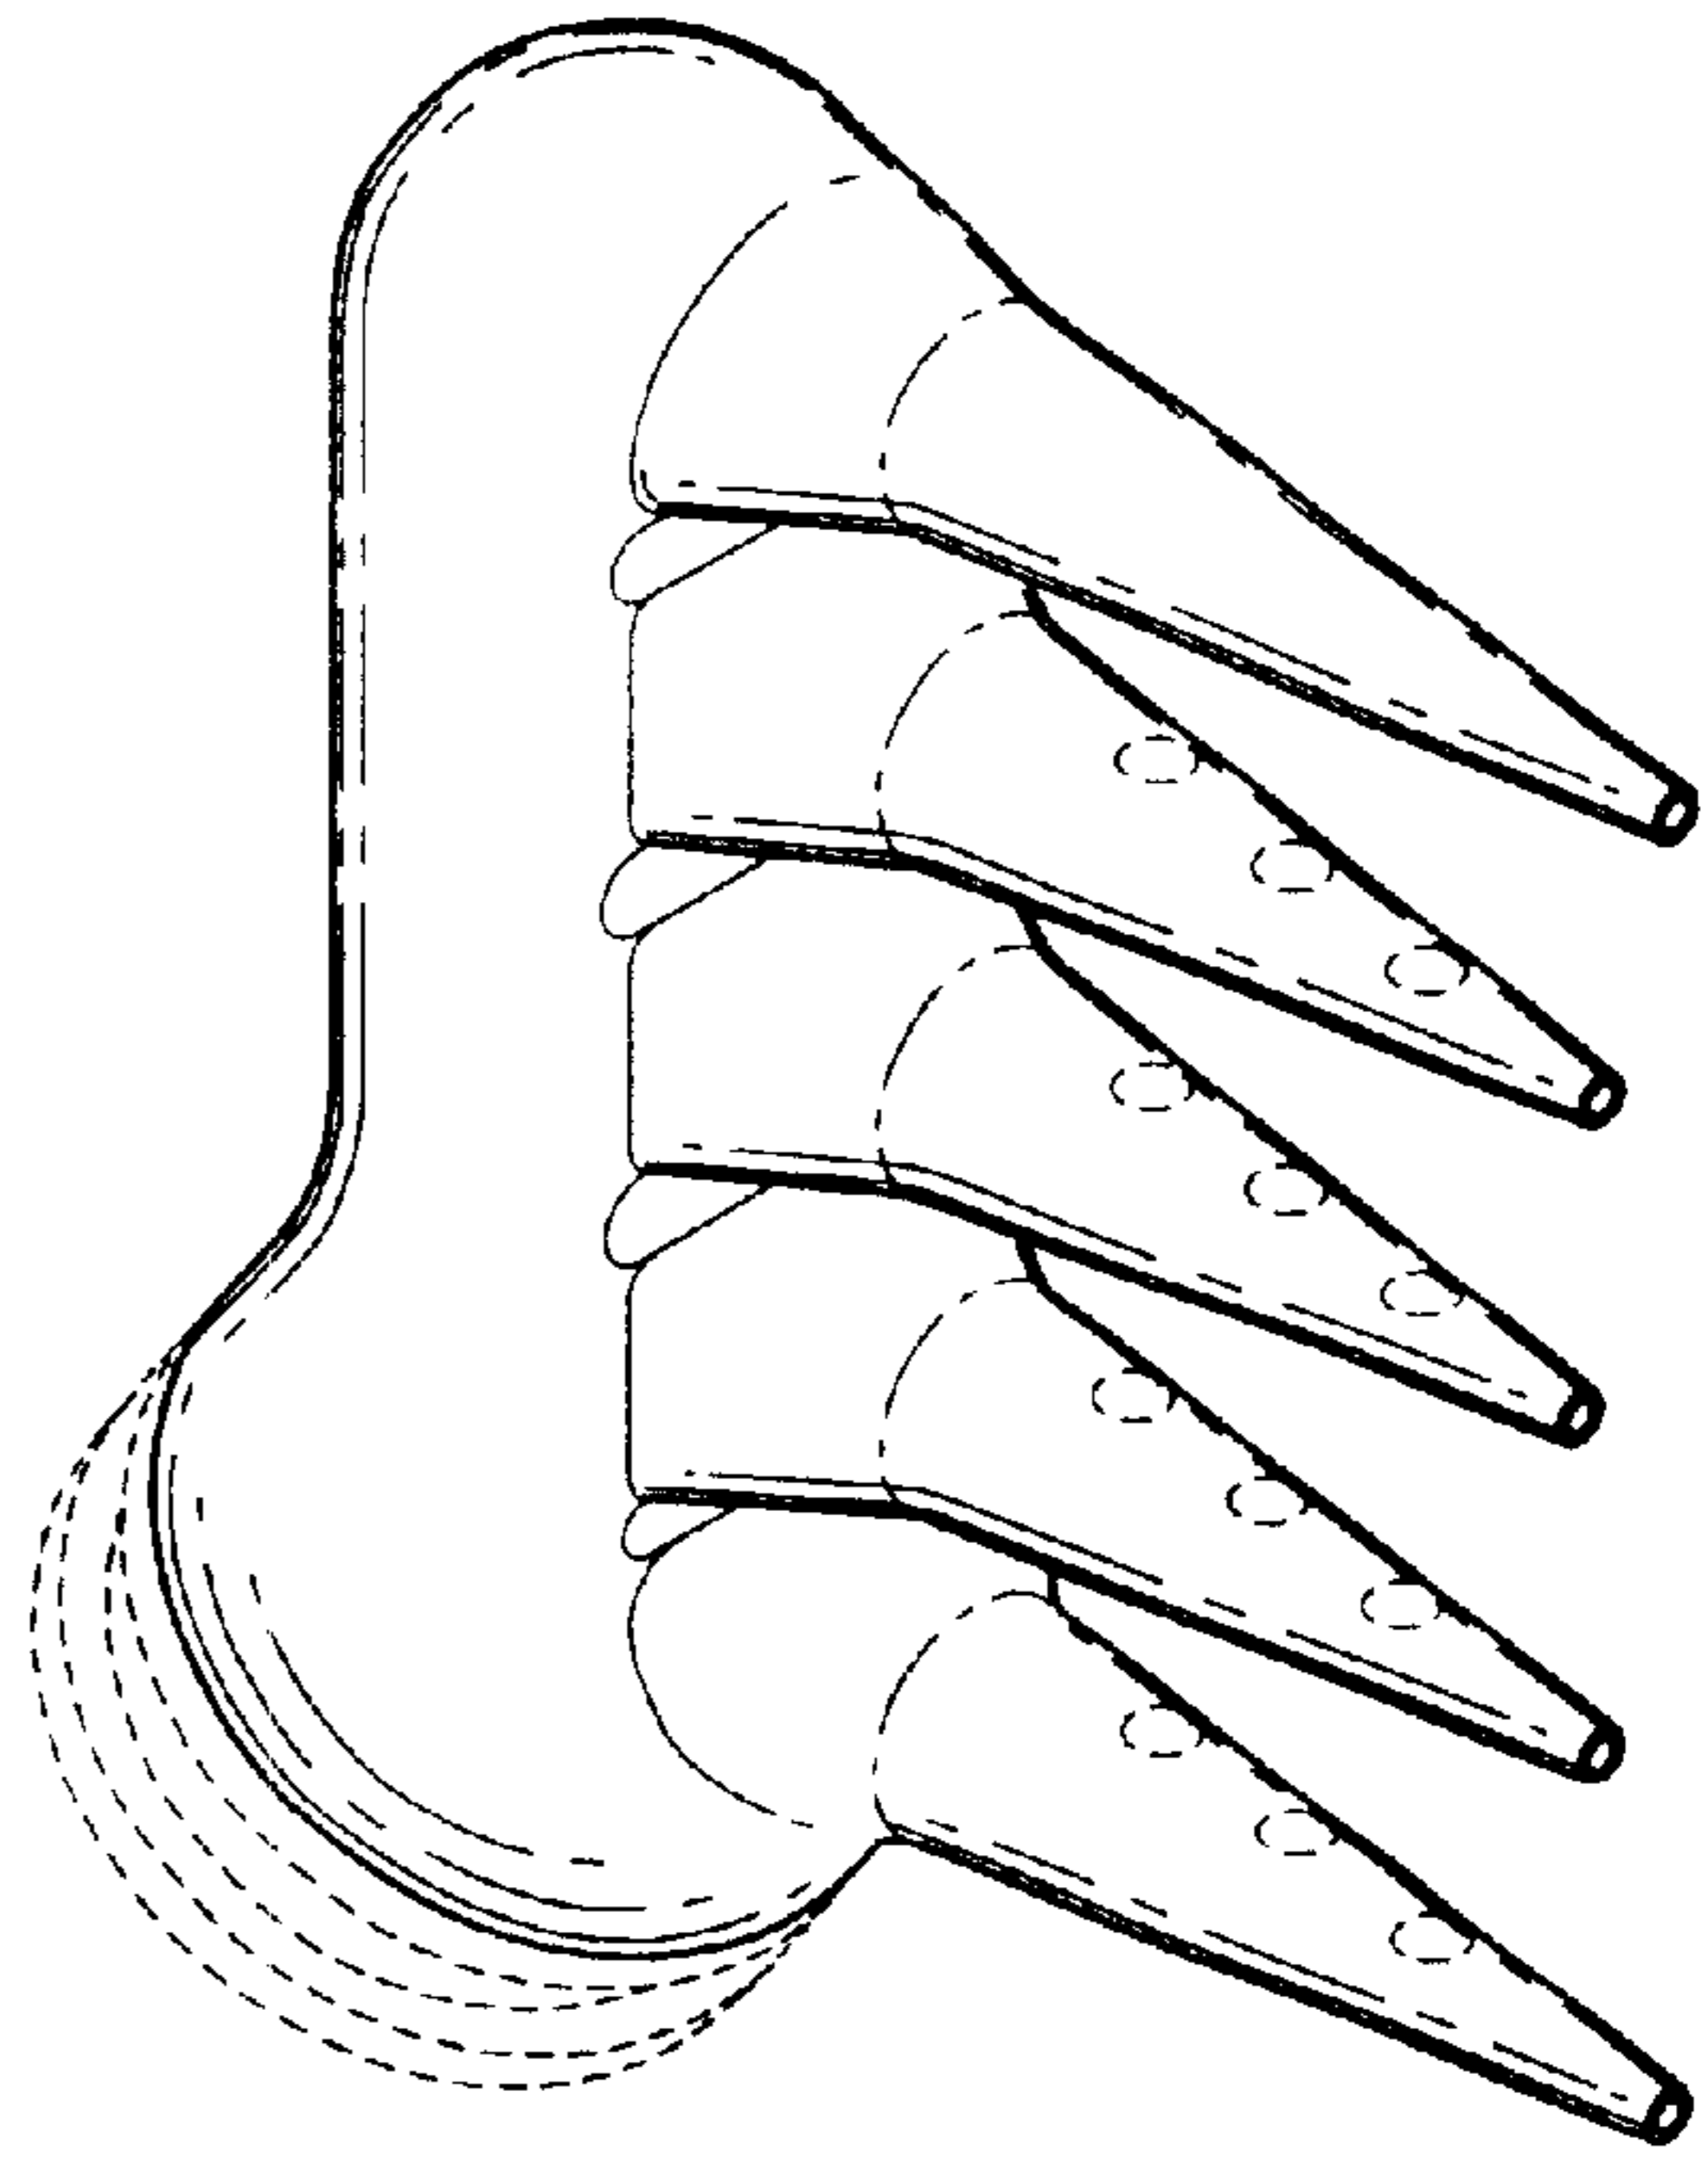

FIG. 9
- FIG. 9 is a top, front, right side perspective view thereof at a different angle;